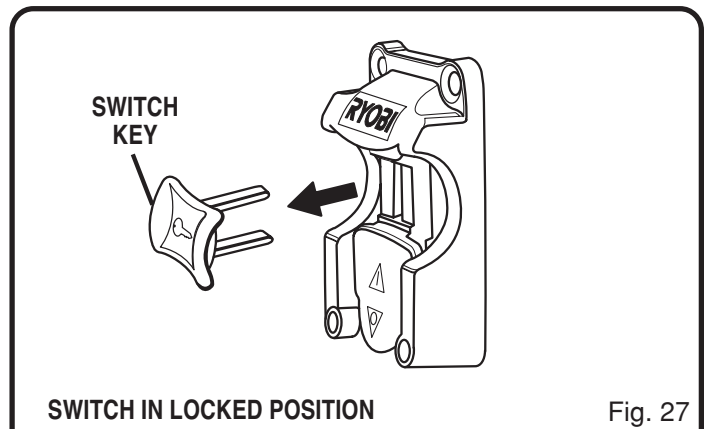

Fig. 27
**Note:** To prevent unauthorized use, remove the switch key as shown in figure 27.